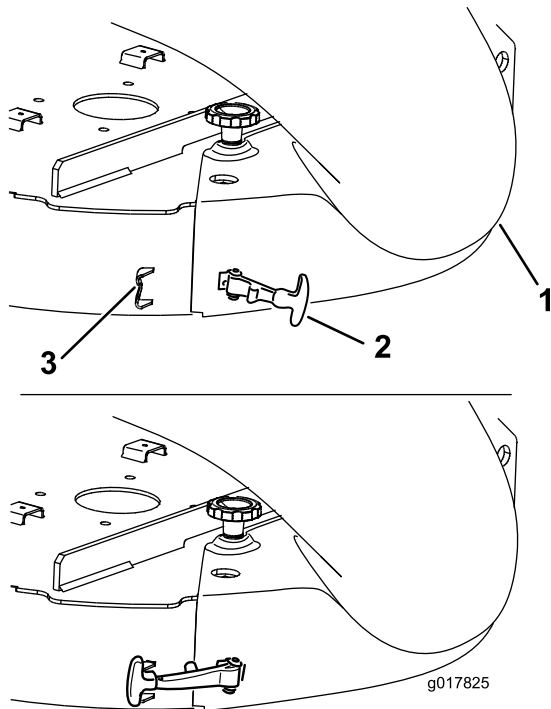

Figure 22
6. Hook the flexible latch on the chute to the retaining clasp welded on the mower deck to the rear of the opening (Figure 22).